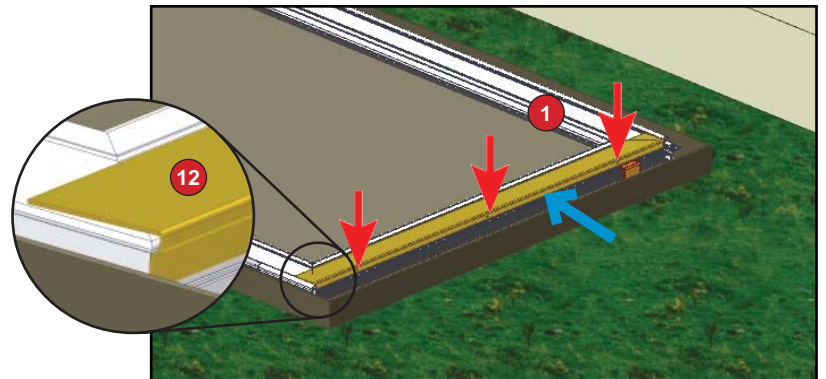

Figure 7
4. Place decorative trim plate onto the door and align edge of trim plate with latch side edge of door frame. (Figure 7)